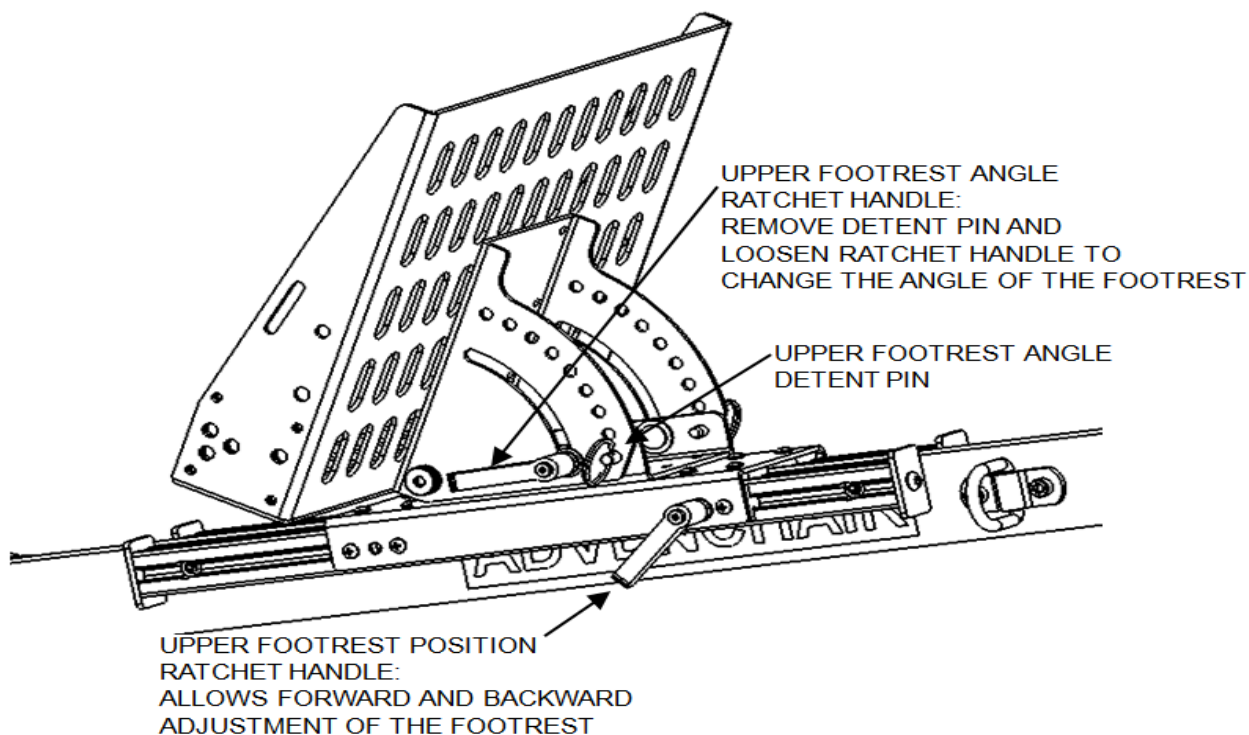

Figure 10. Controls for adjusting the position/angle of the optional upper footrest.
10. Adjust the upper footrest (optional component): (Figure 10)